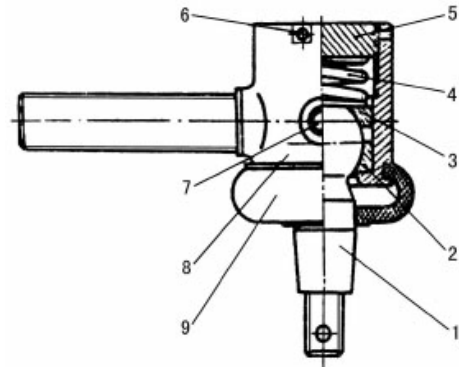

Fig. 6-14 2WD fore axle assembly
The steering connector is shown as Fig. 6-14 with ball-head pin (1) and ball-head pin seat (2). They can relatively rotate in all directions in space, the ball-head pin seat is pressed at pull rod connector (8). Ball-head pin seat end is covered with a cap (3) and pressing spring (4). They are pressed with a spiral cover(5), a lock bolt (6) passes the screw cover (5) to avoid it is loose. Its lower end is put in oil seal sleeve of connector (9), and lubricating oil is filled into pull rod connector hollow by grease nipple(7).
(2) Adjustment and maintenance